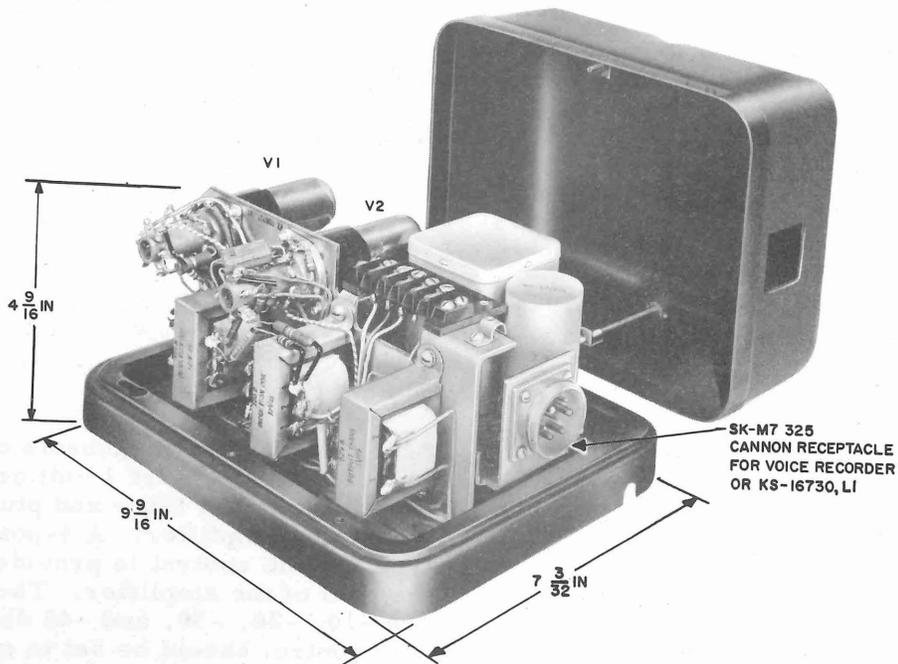

Fig. 1 - 50-Type Recorder Connector
- 2.01 The 50-type recorder connector (Fig. 1) produces this necessary warning tone. Also, it provides a suitable method for connecting the customer owned voice recorder to the telephone line facilities through a permanently attached 7-prong receptacle on the recorder connector.